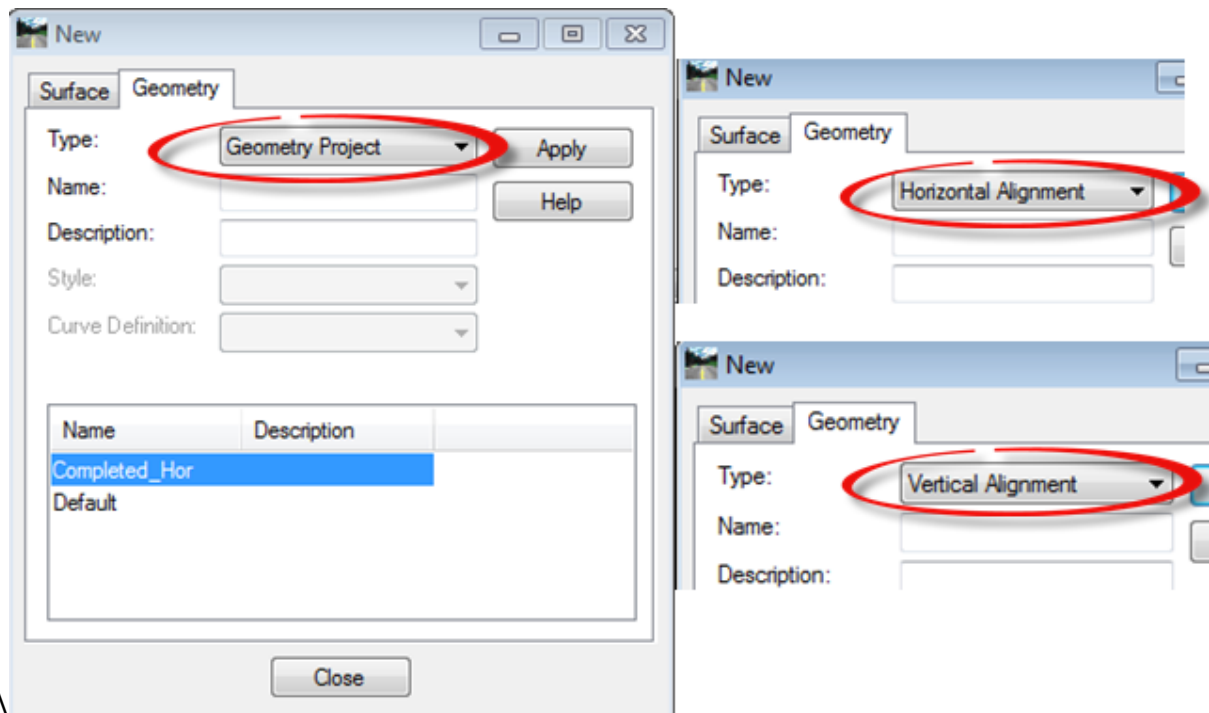

Figure 1-5 InRoads New Dialog Box
- C. Click to **File > New** to create your geometry project. This command shown in Figure 1-5 does not create an actual file it only creates an internal name for the Geometry Project.